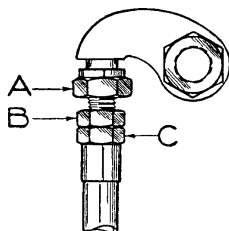

FIG. 47. TAPPET ADJUSTMENT ON 350 c.c., 500 c.c. O.H.V. ENGINES (see also Fig. 48)
Detach the cover from the off-side of the rocker-box after removing the three retaining nuts and fibre washers. This exposes the inlet and exhaust tappet adjustment. As may be seen in Figs. 47 and 48, each push-rod has an adjustable head A secured by a lock-nut B to the push-rod sleeve C.*
1. Compression Plate Omitted (1949 onwards). Turn the engine (350c.c. or 500 c.c.) over slowly until the piston is at T.D.C. on the compression stroke, with both valves closed. See that the exhaust-valve lifter is not preventing the exhaust valve from seating fully. Then check the tappet clearance for both tappets (see above). Referring to Fig. 47, if an adjustment of either or both tappets is required, hold the push-rod sleeve C with one spanner, and with another loosen the lock-nut B. Then screw the adjustable head A up or down until a tappet clearance of nil is obtained.
2. Compression Plate Fitted. On 1945-8 500 c.c. engines having a compression plate, to adjust the tappet clearance, first rotate the engine until the exhaust valve lifts off its seat. Referring to Fig. 47, first slacken the lock-nut (B) on the exhaust push-rod (C). Next rotate the engine until the inlet valve is lifted off its seat. Loosen the lock-nut (B) on the inlet pushrod (C). Then screw the adjustable head (A) of the exhaust push-rod up or down as required to obtain a clearance of nil. Further rotate the engine until the exhaust valve is lifted off its seat. Now tighten the lock-nut (B) on the exhaust push-rod. Afterwards screw up or down as required the adjustable head (A) on the inlet push-rod (C) until tappet clearance is nil. Again rotate the engine until the inlet valve is raised, and tighten the lock nut on the inlet push-rod.